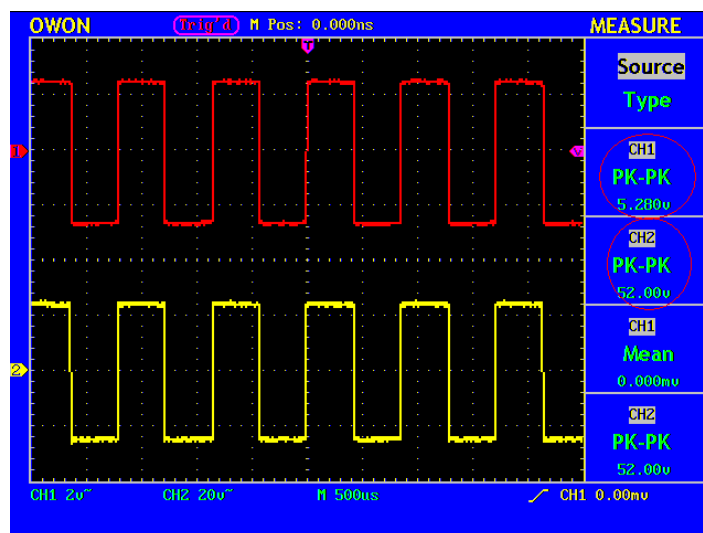

Fig. 109 Wave Form of Gain Measurement
9. Get **Pk-Pk** readings of Channel 1 and Channel 2. (see Fig. 109).